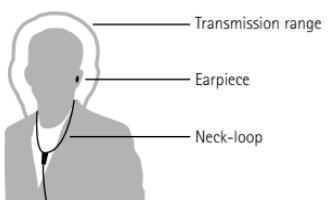

Figure 6
- ▶ Place the neck-loop around the neck and insure that the loop-box remains directly under the mouth (figure 6).
- ▶ As the microphone is located at the top of the loop-box (figure 6), the loop-box should be as close as possible from the mouth. To achieve this, there are several neck-loop lengths available as spare parts.
- ▶ Place a Profilo Nano earpiece in the ear (figure 9). For more information, please see the Profilo Nano user guide or contact your local representative. The audio from the radio is transmitted to the earpiece via the neck-loop (figure 6).
The transmission range is very small and remains in the vicinity of the end-user's head. (No risk of message interception.) (figure 6).